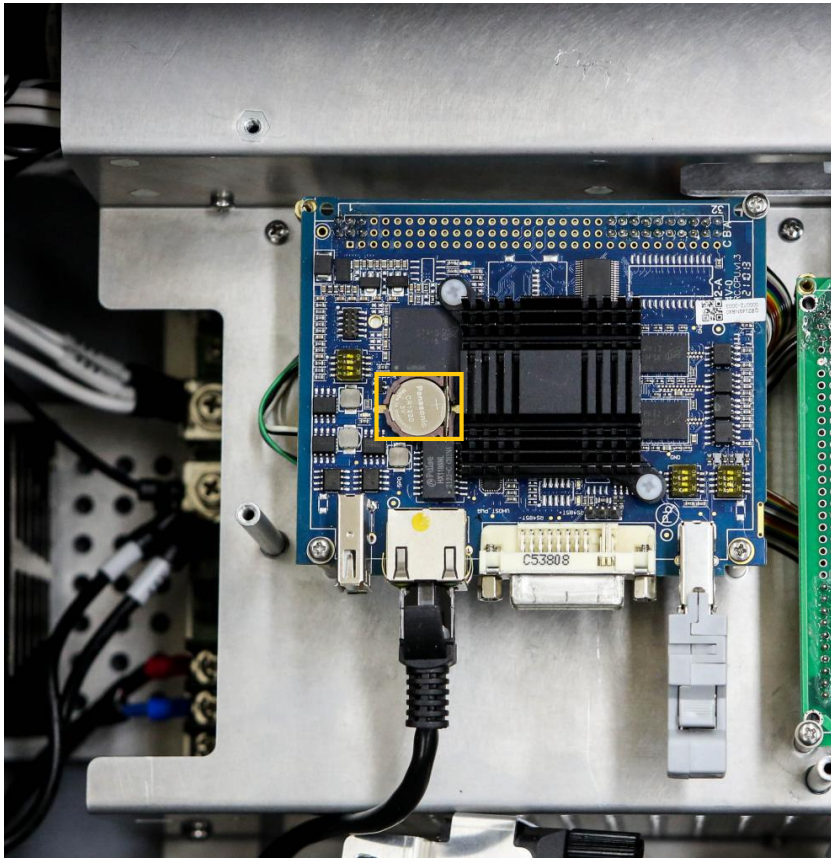

Figure 5-7 : Battery installation completed
4. Put the electromagnetic positive pole of the 3V button upward, insert one end into the position where the battery slot has a buckle, and press down gently until the battery slot card can catch the battery, as shown in **Figure 5-7**.